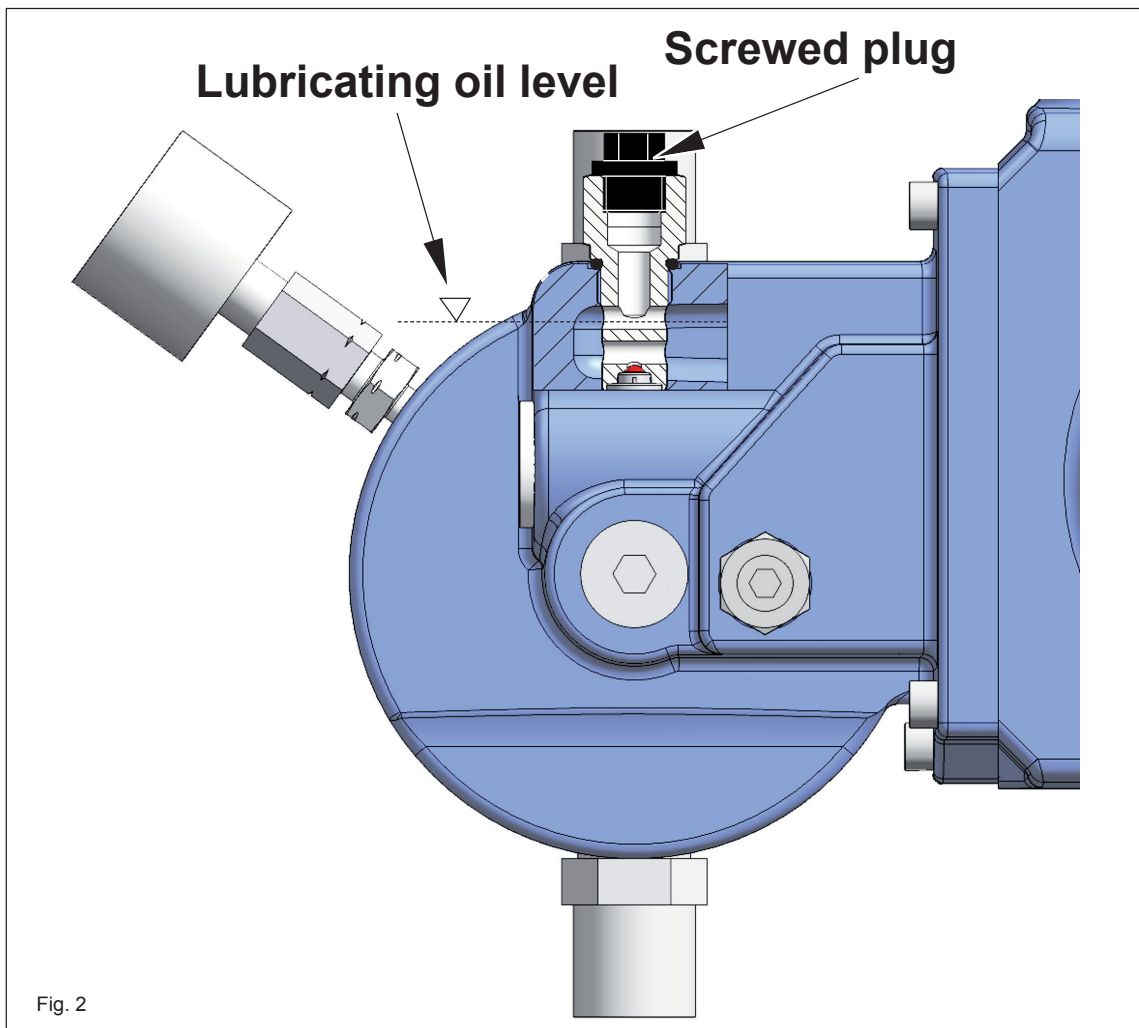

Fig. 2
2. Remove screwed plug of the hydraulic snifting valve (529) (see fig. 2).
3. The lubricant level indicated must be within the range of the cross bore visible from above (see figure 2).
4. If required top up lubricant. For this remove air filter (39).
5. Reinstall air filter (39).